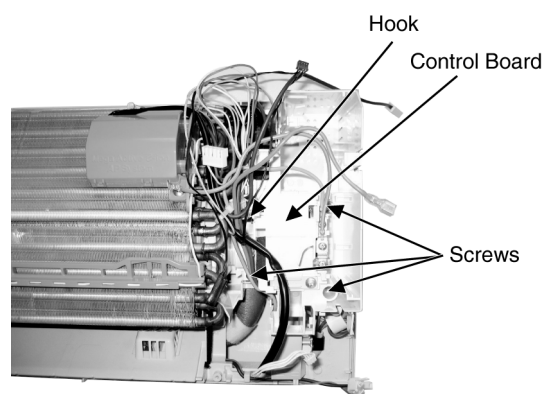

Fig. 9
- Release the 3 screws. (Fig. 9)
- By pressing down the hook at the left side of Control Board, you will be able to remove the Control Board. (Fig. 9)